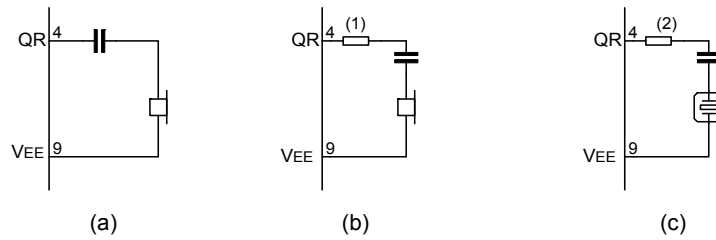

Fig.11 Alternative receiver arrangement
The receiving amplifier has one input (IR) and a non-inverting output (QR). Earpiece arrangements are illustrated in Fig.11. The IR to QR gain is typically 31dB (when R4=100kΩ). It can be adjusted between 20 and 31dB to match the sensitivity of the transducer in use. The gain is set with the value of R4 which is connected between GAR and QR. The overall receive gain, between LN and QR, is calculated by subtracting the anti-sidetone network attenuation (32dB) from the amplifier gain. Two external capacitors, C4 and C7, ensure stability. C4 is normally 100pF and C7 is 10 times the value of C4. The value of C4 may be increased to obtain a first-order low-pass filter. The cut-off frequency will depend on the time constant R4*C4. The output voltage of the receiving amplifier is specified for continuous-wave drive. The maximum output voltage will be higher under speech conditions where the peak to RMS ratio is higher.